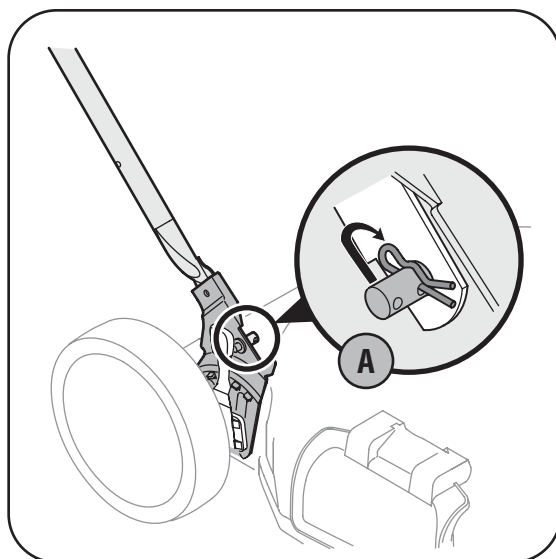

Figure 4-2
2. Locate hairpin clip in one hole on the weld pin on each side of lower handle. Figure 4-2.
1. Standing behind the mower, squeeze and hold the blade control against upper handle, Figure 4-2.